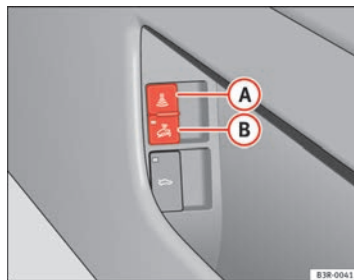

Fig. 79 Interior monitoring switch
- Open the door and pull out the switch **A** (with the symbol ) to one side of the storage compartment, in the driver door ⇒ fig. 79.
- Open the door and pull out switch **B** (with the symbol ) to one side of the storage compartment, in the driver door => page 108, fig. 79.